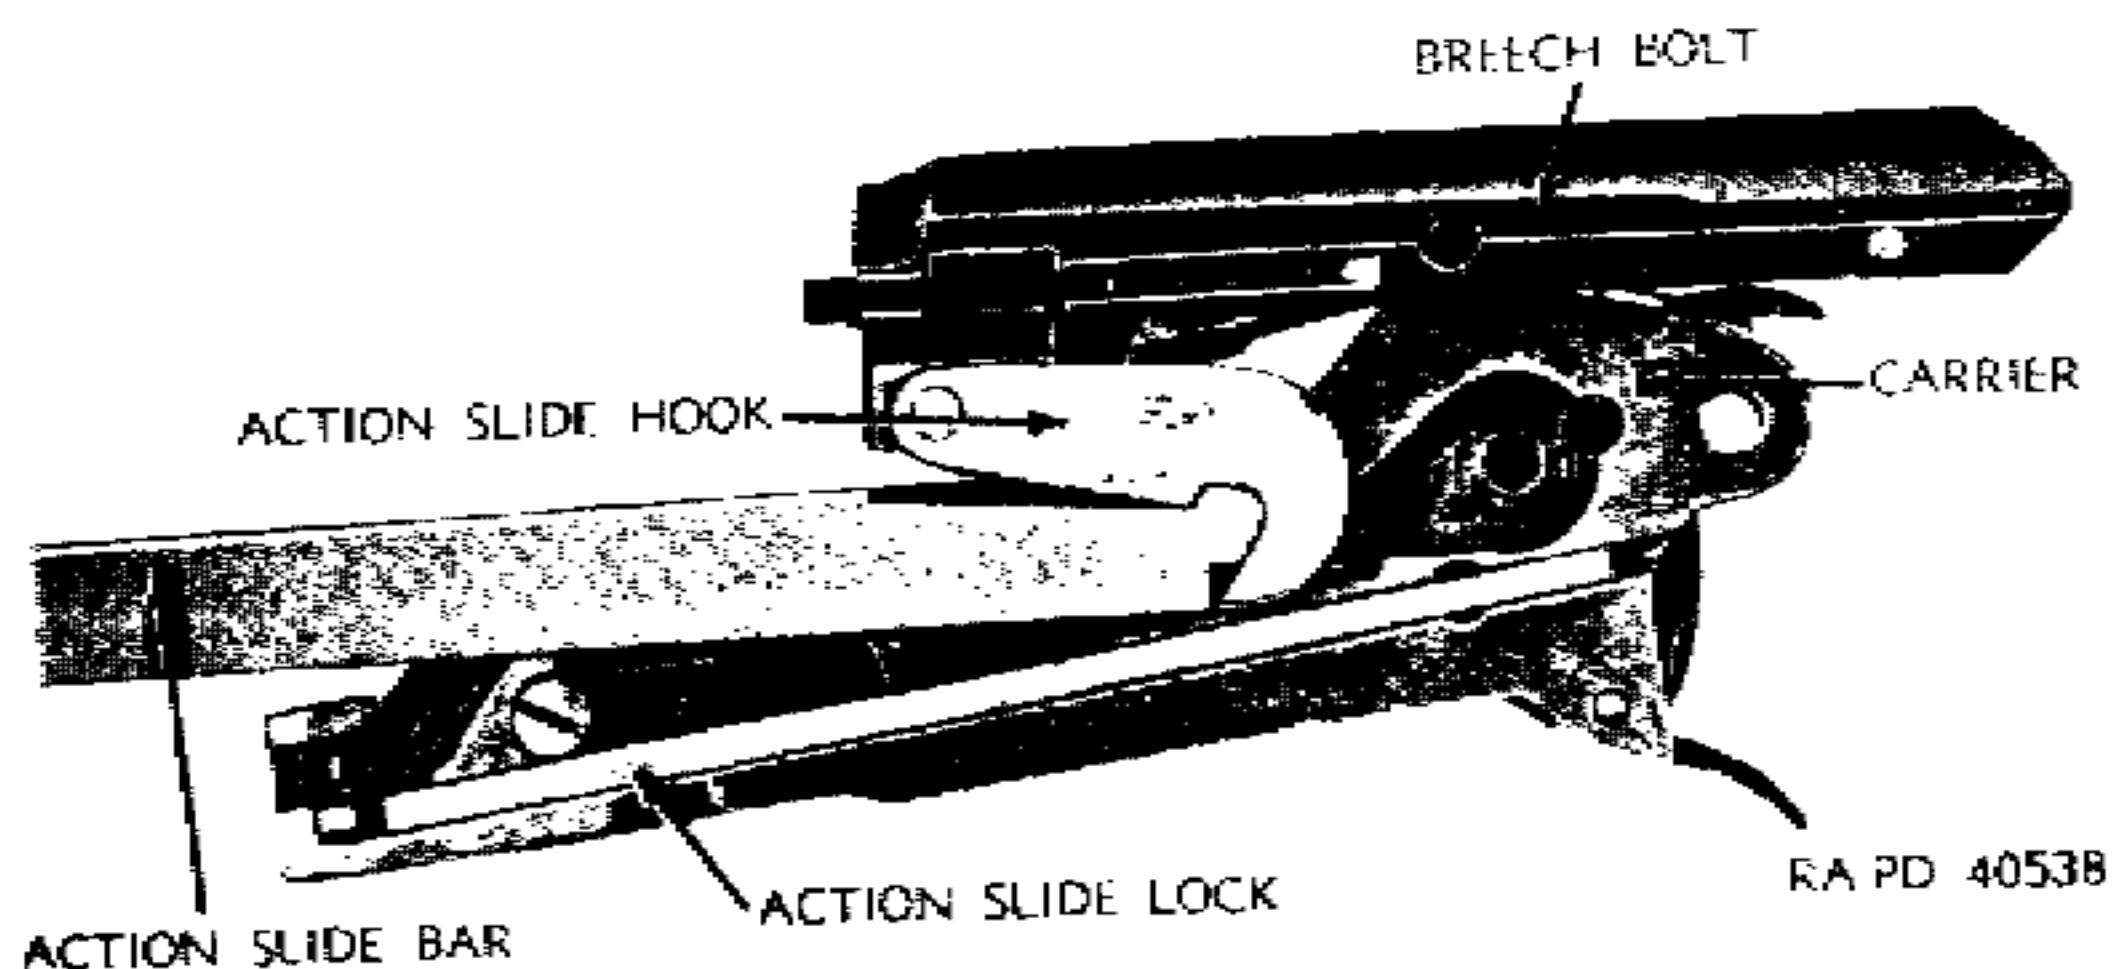
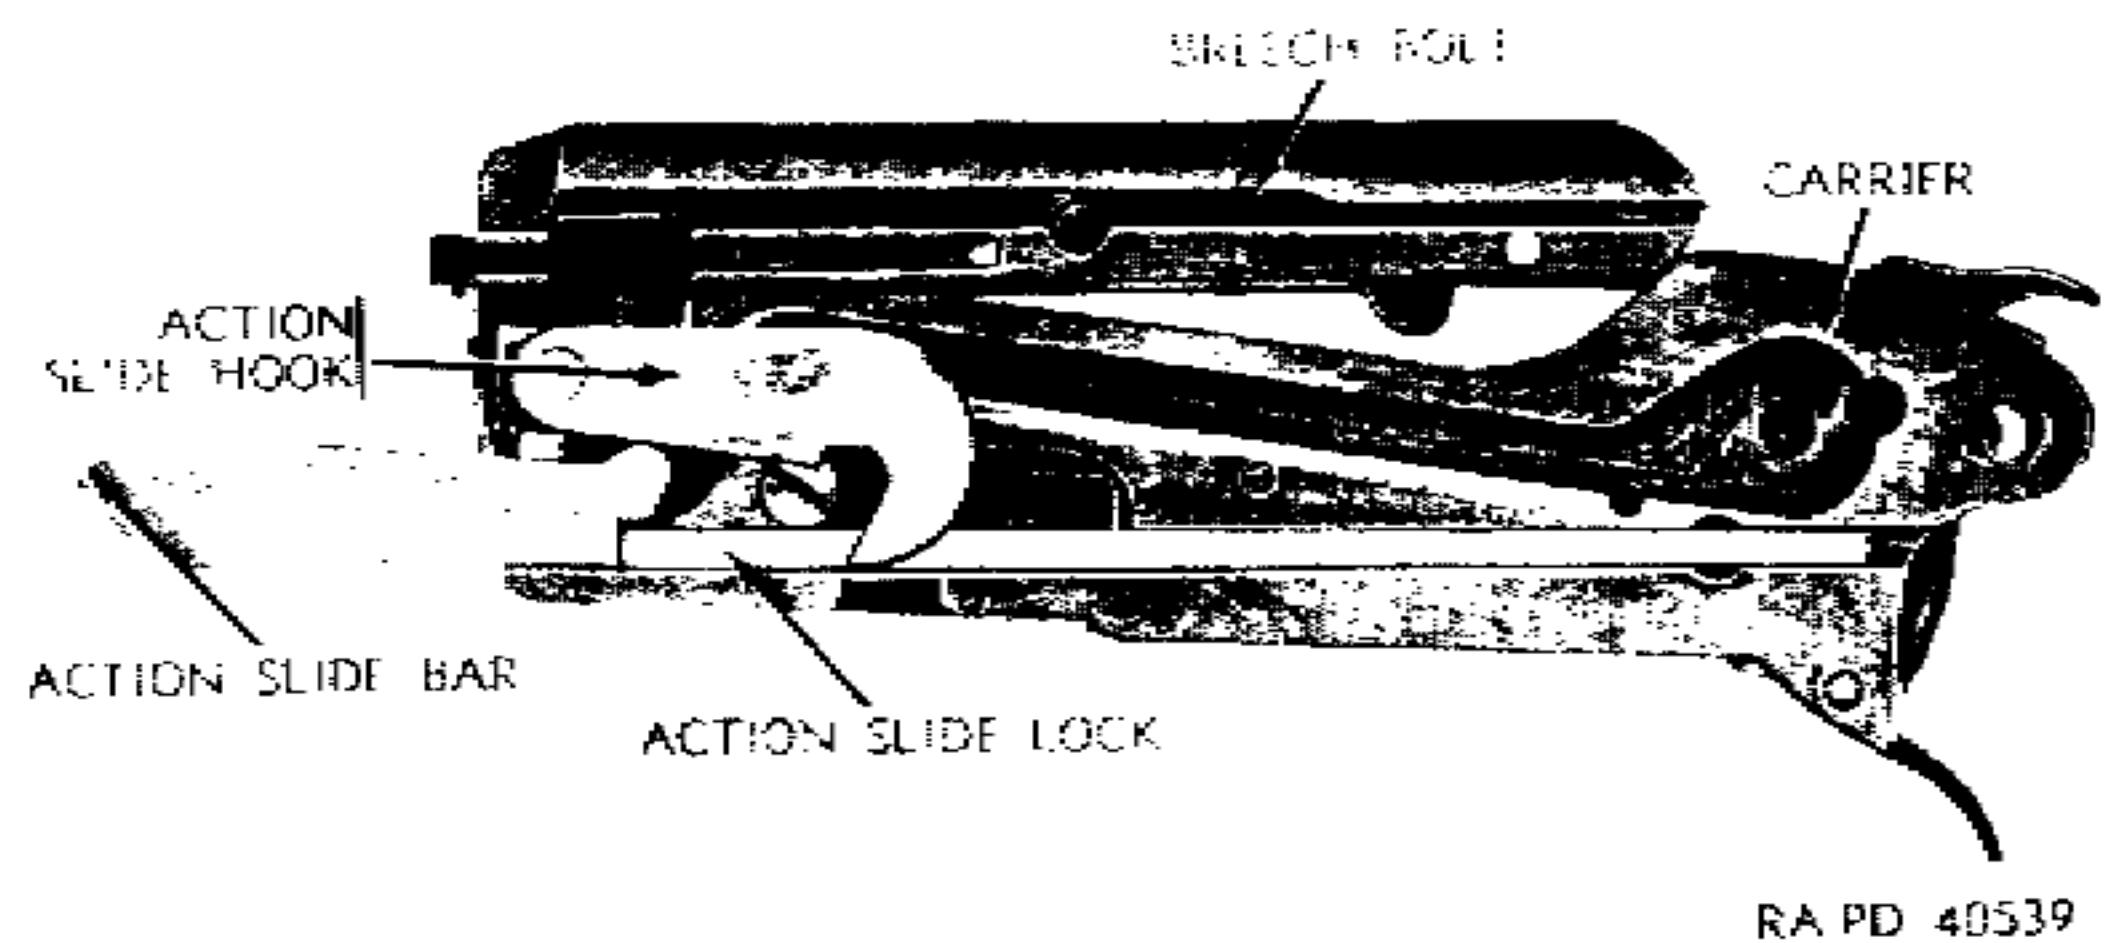

Figure 12—Breech Bolt, Carrier and Action Slide Bar Groups—Breech Bolt Unlocked from Carrier—Action Slide Lock Disengaged—Winchester Shotgun M97
Figure 13—Breech Bolt, Carrier and Action Slide Bar Groups—Breech Bolt Locked by Carrier—Action Slide Lock Engaged—Winchester Shotgun M97
(4) There is no trigger safety on this gun, this function being performed by setting the hammer at the half cock which prevents retraction of the trigger and release of the action slide bar.
(5) The magazine which is of the tubular type is positioned beneath the barrel and has a capacity of five shells loaded end to end. The shells are pressed together and fed into the receiver by the force of the magazine spring acting upon the follower.
(6) The shell stops are pivoted in the lower, forward inside walls of the receiver, and act to hold the shells in the magazine against the pressure of the magazine spring. The stops are operated by the carrier to release and block the shells at the proper time, thus allowing but one shell to enter the receiver at a time.
(7) The action slide lock (figs. 12 and 13) is positioned in the left side of the carrier and acts upon the action slide bar to block its rearward movement after the breech bolt is locked in position by the carrier, thereby preventing premature unlocking of the bolt. The lock is disengaged either by the descending hammer pressing on the action slide lock release plunger, when the gun is fired, or by manually pressing on the action slide lock release plunger pin. When the lock is disengaged from the rear end of the action slide bar the action slide may be moved to the rear to cam down the carrier, unlock the bolt and function the operating mechanism.
(figs. 12 and 13), engages with the rear end of the action slide bar, and as the bar is reciprocated, the bolt is likewise moved back and forth. The timing of the movements of the carrier and bolt is such that the carrier is cammed completely up as the bolt reaches the extreme forward position. The locking shoulder on the forward end of the carrier is thus moved up behind the locking shoulder on the forward end of the bolt, locking the bolt in the closed position. As the bolt is locked in position, the action slide lock, pivoted in the left side of the carrier, springs out to block the rear end of the action slide bar (fig. 13). The action slide is thus prevented from moving to the rear and unlocking the bolt until the lock is disengaged either by the descending hammer, when the gun is fired, or by manual depression of the action slide lock release plunger pin extending through the right side of the receiver.